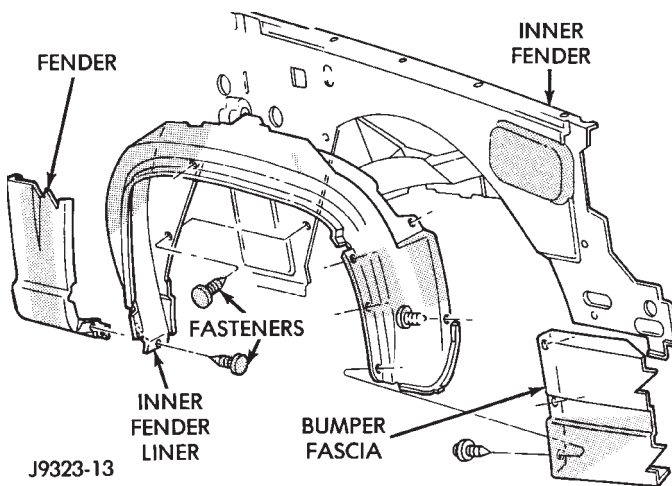
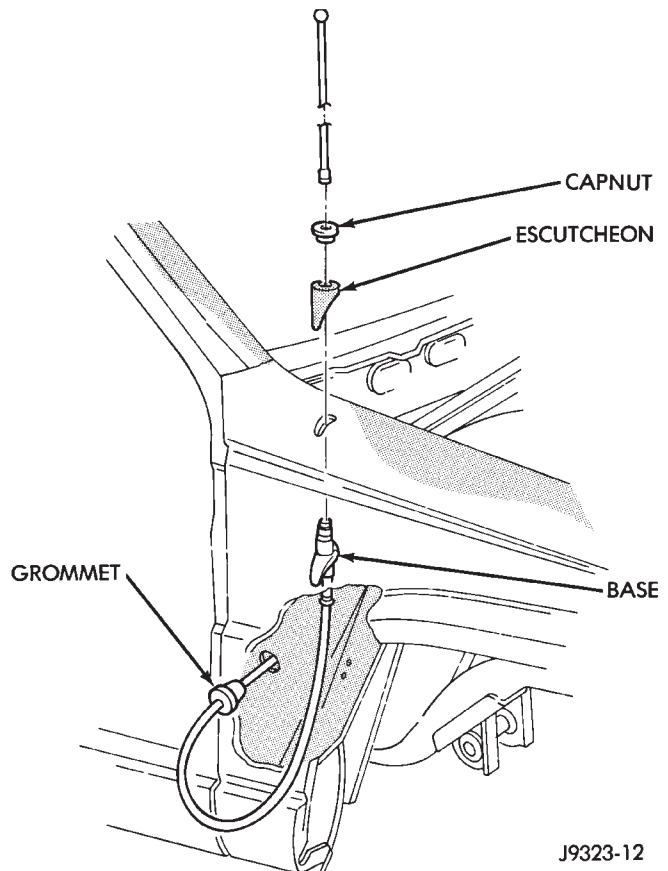

Fig. 20 Inner Fender Liner
Fig. 21 Radio Antenna
(1) Remove headlamp, side marker and turn signal lamp. Refer to Group 8L, Lamps for service information.
(2) Remove front bumper fascia. Refer to Group 13, Frame and Bumpers for service information.
(3) Remove front wheel.
(4) Remove 12 fasteners attaching inner front fender liner to fender and inner fender (Fig. 20).
(5) Remove inner fender liner.
(6) Right fender only:
- If equipped, remove radio antenna mast, nut, pad and base from fender (Figs. 21 and 22);
(2) Install all of fender attaching screws finger-tight (Figs. 20, 23 and 24).
(3) Align fender with adjacent body panels. Tighten fender bolts to 9 N•m (80 in-lbs) torque.
(4) Install inner fender liner (Fig. 20).
(5) Install front wheel.
(6) Install front bumper fascia. If necessary refer to Group 13, Frame and Bumpers for installation instructions.